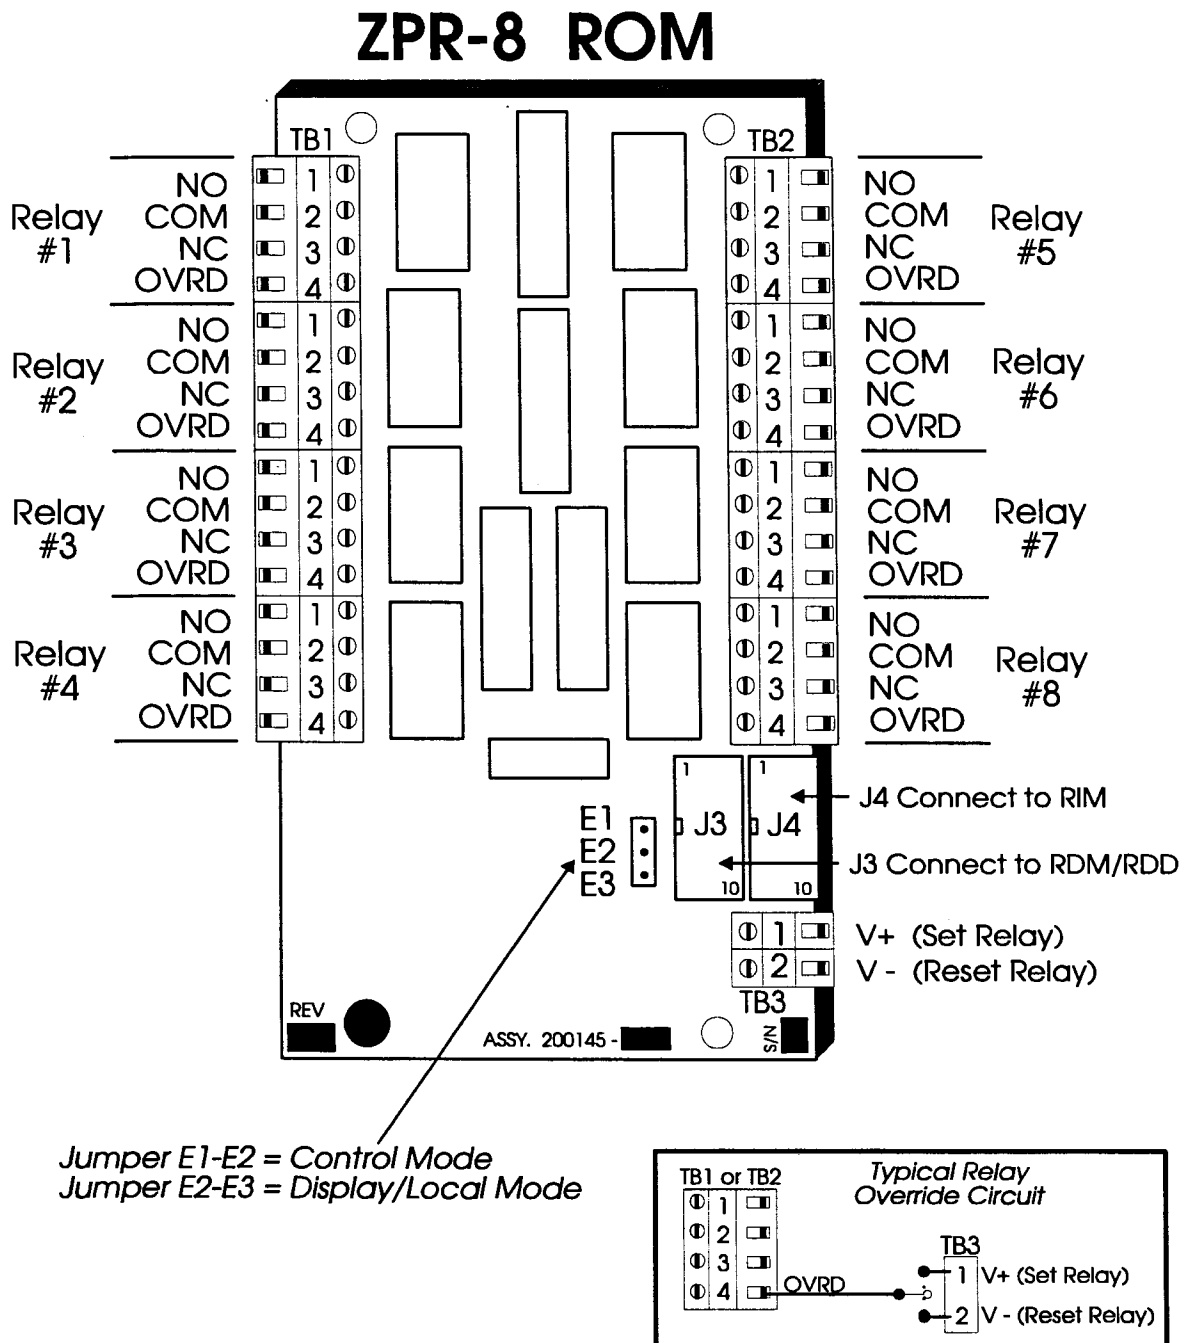

Figure 3-33. ZPR-8 ROM, RELAY OUTPUT MODULE
The ZPR-8 Relay board is a basic Relay Output Module (ROM) with eight (8) Form-C, dry contact, DPST latching relays (see Figure 3-33). Each ZPR-8 ROM board is connected to, and addressed through, a RIM board (RIM-8 or RIM-16). Each relay contact is rated for 2.0 amps @ 24 VDC, or 0.5 amps @ 24 VAC.
The OVRD connector is used as an override to HOLD the relay in the SET or RESET conditions (activated or deactivated) regardless of commands sent to it by the RTU processor or the Host Computer. Connections for the Override input are via TB3, with V+ used to 'SET' a relay, and V- used to 'RESET' it (see Figure 3-33). The "Normally-open" and "Normally-closed" connections are used with the "Common" for the connection to, and the control of an external device. Since the relays are Form-C relays, dry-contact relays, power for the device being controlled must be provided from an external source. Connections are made on TB1 or TB2 with a minimum 22 AWG, 2-conductor cable and should normally remain within 1000 feet or less.